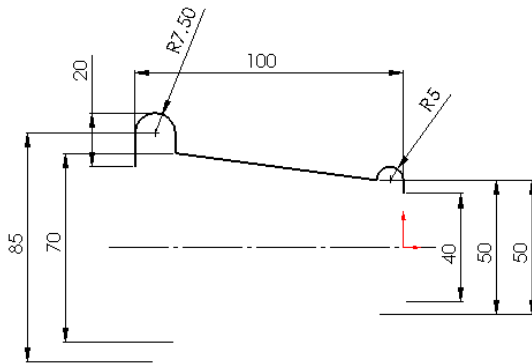

Figure 15-98 Sketch of the base surface
- Create the base surface of the model by revolving the sketch using the **Mid Plane** option to 180-degree, refer to Figures 15-98 and 15-99.
2. Invoke the sketcher environment using the **Front** plane as the sketching plane and create the sketch of the base surface as shown in Figure 15-98.